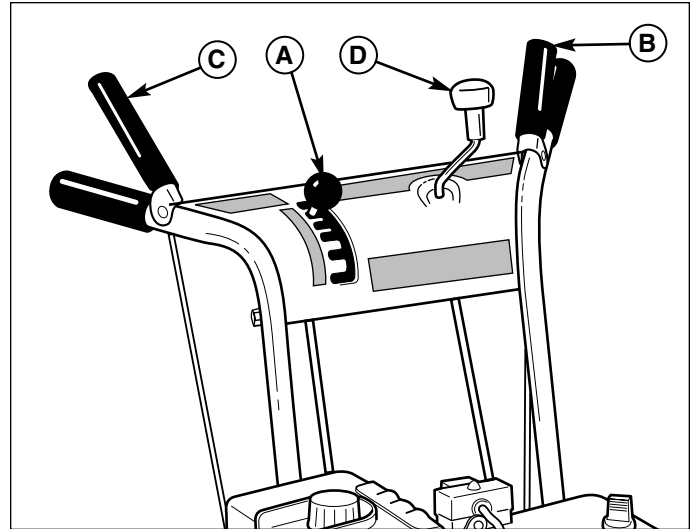

Figure 5. Operator's Control Position
3. Fully press and hold the auger control (C, Figure 5) on the right-hand grip to begin auger rotation. To disengage the auger, completely release the lever.
4. Fully press and hold the traction drive control lever (B, Figure 5) on the left-hand grip to engage the traction drive and begin moving the snowthrower. To disengage the traction drive, completely release the lever. If engaged at the same time, the drive control (B) will lock the auger control (C) in the engaged position. Releasing the drive control (B) will release the auger control (C).
5. Select forward or reverse speeds as needed using the speed selector (A, Figure 5). Release the drive control lever whenever changing drive speeds.
Use the speed selector (A, Figure 5) to control the drive speed of the snowthrower. There are five forward speeds and two reverse speeds.
To change speeds, first release the traction drive control lever (B, Figure 5), then move the speed selector to the desired speed setting. Fully press the traction drive control lever to resume operation.